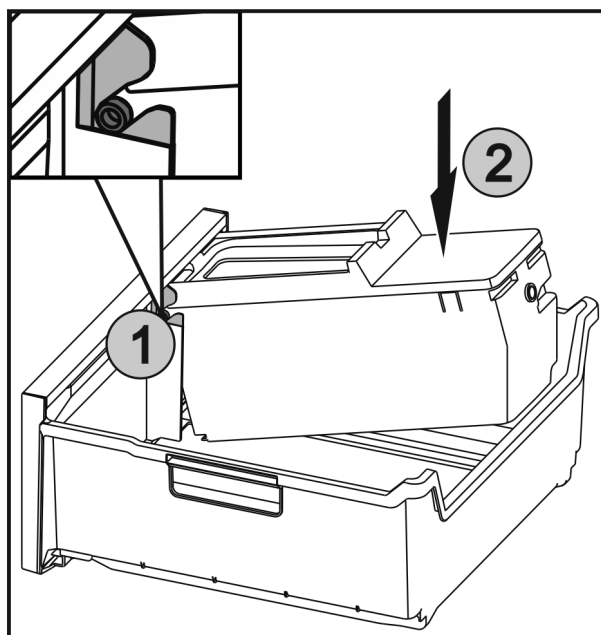

Fig. 58
- ▶ Insert the axles *Fig. 58 (1)* on the EasyTwist-Ice in the guides and push the rear side *Fig. 58 (2)* until the lug engages.